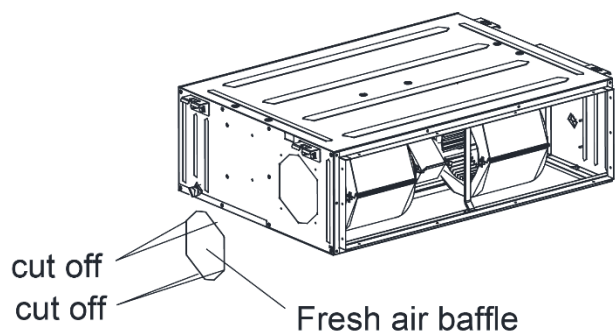

Fig 23
- (1) When the fresh air pipe is needed to be connected, cut the fresh air baffle as Fig 23.